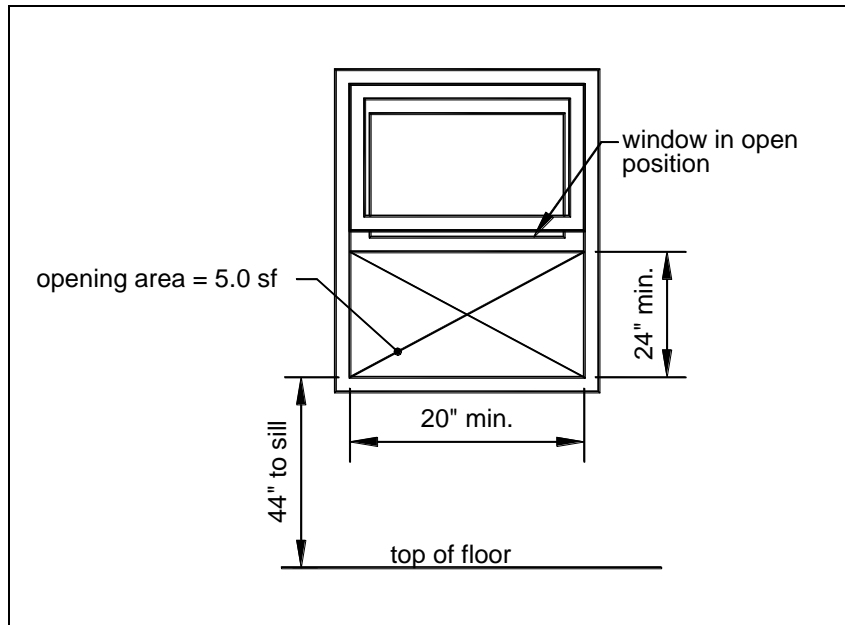

FIGURE 1: WINDOW EGRESS REQUIREMENTS
- See FIGURE 1 for more opening requirements.